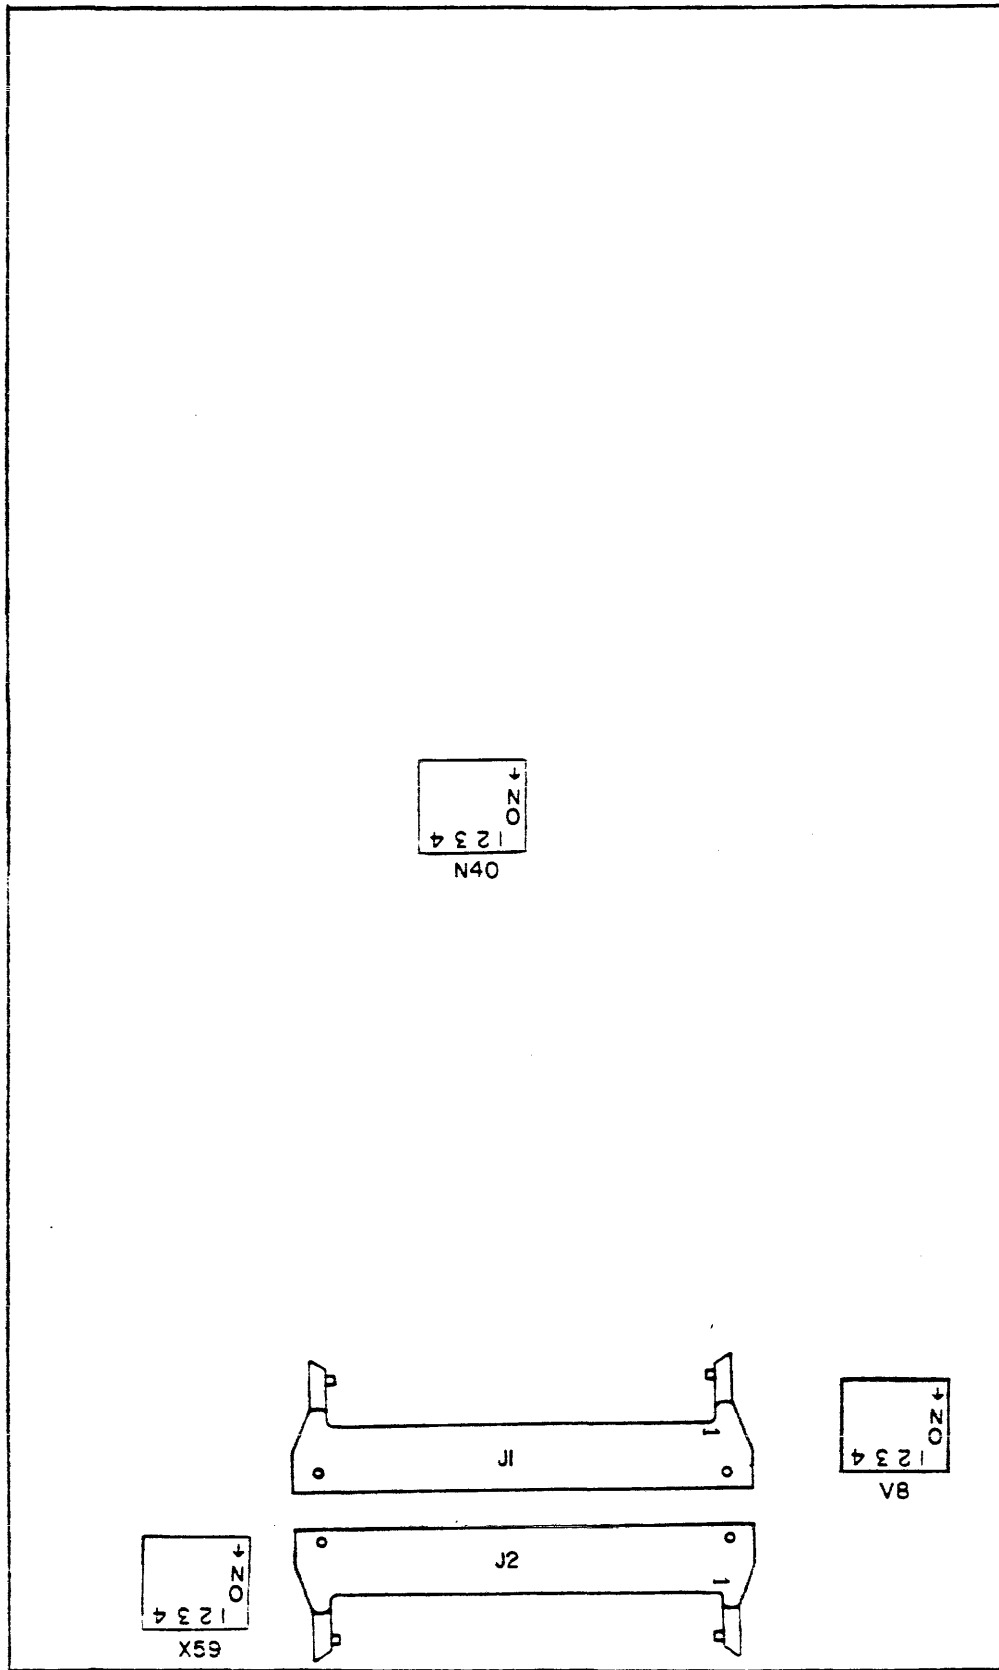

FIGURE 1 - HEW MAIN PCBA
- 7. Set the sector switches on the HEW MAIN PCBA at location V8 as desired. Refer to Figure 1.
- 8. Set drive select switches on the HEW MAIN PCBA at location X59 for the required physical address. Refer to Figure 1.
Switch N40 1-4 ON. See Figure 1.
See Figure 1